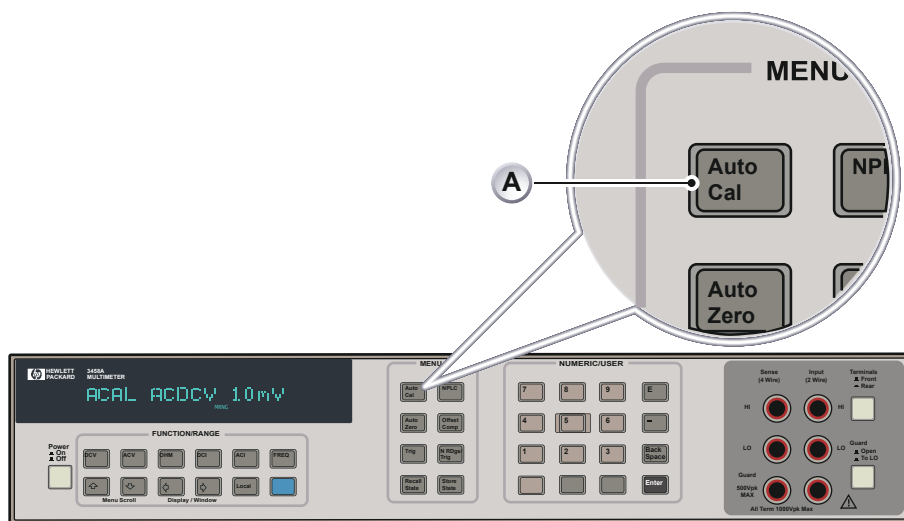

Figure E.20: HP3458A Multimeter Zero calibration (Part 1)
- 2 Select the **Auto Cal** button (see Figure E.20).